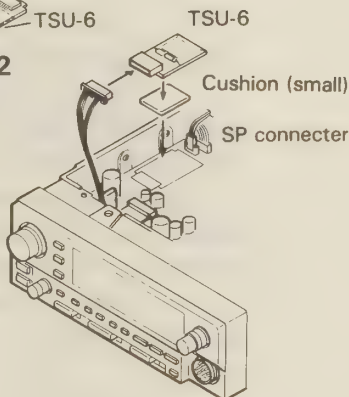

Fig. 3
6. Attach the cable from TSU-6 as shown in the diagram. (Fig. 3)